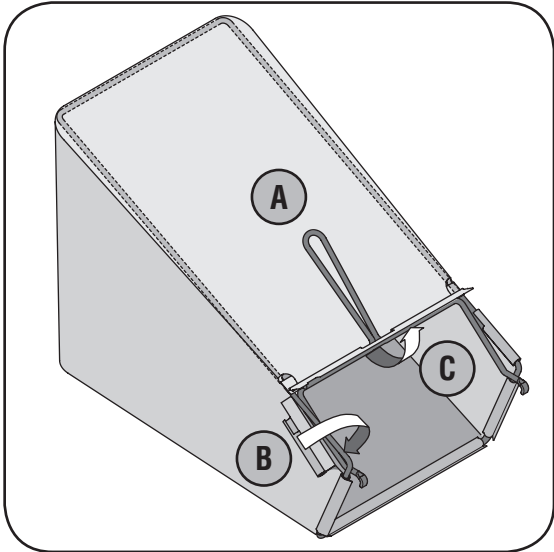

Figure 3-5: Assemble the grass catcher.
- b. Slip plastic channel of grass bag over hooks on the frame. See Figure 3-5. All the plastic channels except center top of bag attach from outside of bag.